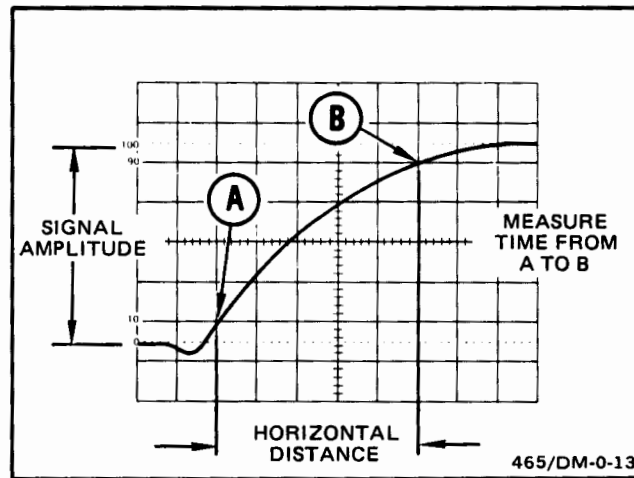

Figure 19. Rise time.
Rise time measurements use the same methods as time duration, except that the measurements are made between the 10% and 90% points on the leading edge of the waveform (see Figure 19). Fall time is measured between the 90% and 10% points on the trailing edge of the waveform.
6. Horizontally position the display so the 10% point on the waveform intersects the second vertical graticule line (see Figure 19).
**EXAMPLE:** The horizontal distance between the 10% and 90% points is 5 divisions (see Figure 19) and the TIME/DIV switch is set to 1  $\mu$ s. No magnification is used.